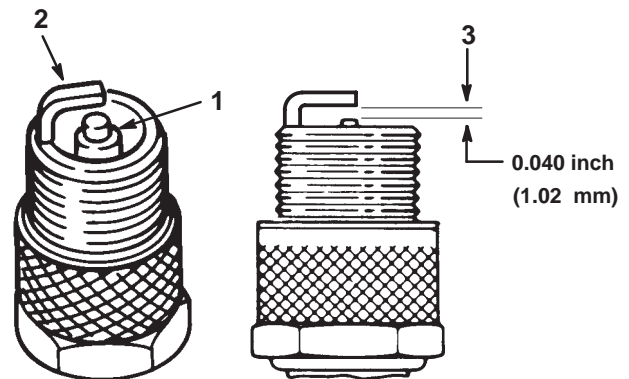

Figure 34
1. Look at the center of the spark plug(s) (Fig. 34). If you see light brown or gray on the insulator, the engine is operating properly. A black coating on the insulator usually means the air cleaner is dirty.
2. Check the gap between the center and side electrodes (Fig. 34). Bend the side electrode if the gap is not correct (Fig. 34).